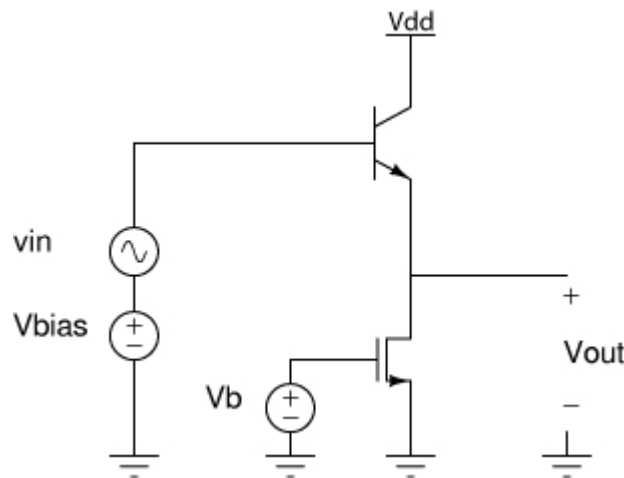

Figure 1: Common collector amplifier with NMOS current source
In this assignment you will characterize both an npn-BJT and an NMOS transistor, (separately), and use the measurements to design a common collector (emitter follower) amplifier with an NMOS current source, shown in Figure 1. In the design, you will choose the bias voltage V_B of the NMOS current source and the DC bias voltage, V_{BIAS} , in order to meet the following specs.
1) **(20 points)** (Small Signal - 20 points) To help you determine the bias voltages, for the amplifier circuit of Figure 1, write down the equations for the DC voltage gain (A_{vo}) and the input and output resistances (R_{in} , R_{out}) in terms of the parameters derived from the measurements (g_m , r_{oBJT} , r_{oMOS} , r_π). Do not make simplifying assumptions (i.e. include effect of r_o)